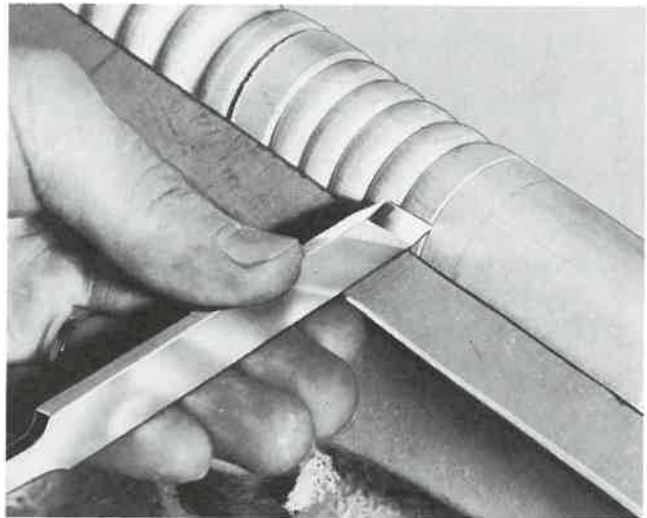

Fig. 3-26. The tool rest should be close to the work to prevent an accident.
6. Keep the tool rest close to the work, Fig. 3-26.